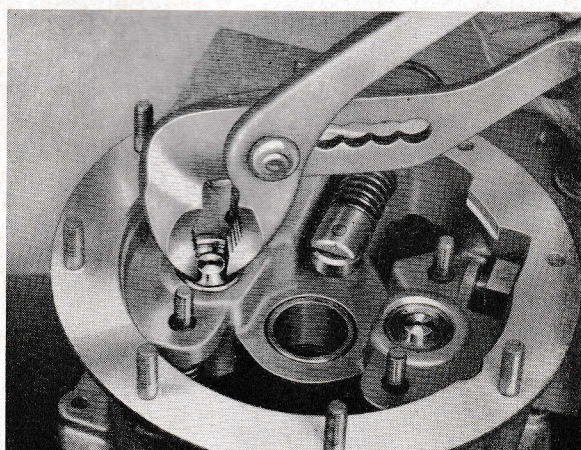
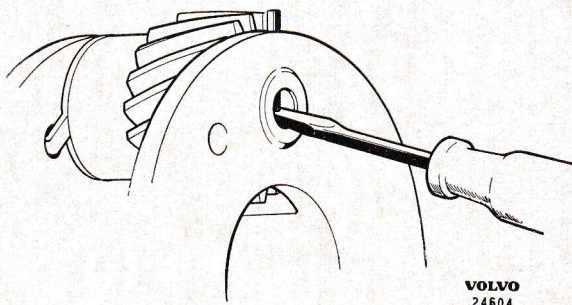

Fig. 12. Removing the plungers
Fig. 13. Removing the locking pins in the planet wheels
1. Remove the cover over the oil strainer and over the lever (13, illustration I) for the control valve. Remove the oil strainer. Unscrew the bolts and lift out the solenoid (17).
2. Bend down the locking plate, unscrew and remove the nuts for the plunger pressure plate (54). Remove the pressure plates. Pull out the plungers with the help of a pair of pliers, see Fig. 12.
3. Unscrew the nuts which hold together the brake drum (39), the front (46) and rear (20) housing halves. Slacken the nuts successively all round so that there is no oblique tension from the springs. Lift off the front housing half and brake drum.
4. Lift out the clutch disk (41) complete with thrust bearing and sun wheel. Remove the four springs and pressure plate. Remove the locking rings for the sun wheel (44) and bearing. Remove the sun wheel. Pull off the bearing from the clutch disk. Press out the bearing from the retainer.
5. Lift off the planet wheel (36) and carrier (43). Remove the locking pins (40) for the planet wheel shafts by first pressing them out with a drift or similar, see Fig. 13 and then removing them with a pair of pliers. If this is not possible, drill out the pins with a suitable drill. Press out the planet wheel shafts and remove the planet wheels. The needle bearings in the planet wheels can be